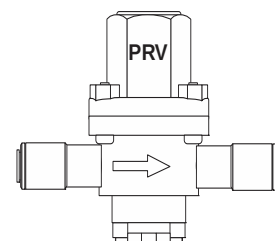

Figure 3
- ♦ The **Dish Washer Take Off** (DWTO) connector is designed to go straight onto the 20mm ($\frac{3}{4}$ ") tap connection for the dish washer. Fit the **Quick-Fit** fitting (see Figure 3 for operation) into one of the side ports and use the spare “bungs” to block other ports not required. Turn off the tap on the wall, remove any existing hosing leading to an appliance, fit the DWTO onto the tap and reconnect any hose. Leave tap turned off until Step 6.
- If fitting the Waterline PRV, it goes before the housing and the flow direction is indicated by an arrow on the side. The PRV comes with built-in Quick-Fit connectors as illustrated in (Figure 3). When fitting ensure the PRV is not likely to be exposed to violent knocks. If in doubt, mount PRV out of potential danger using the keyed slots provided. **The Waterline PRV comes factory set with an output of 350 Kpa and touched or interfered with, all warranty's are void.**